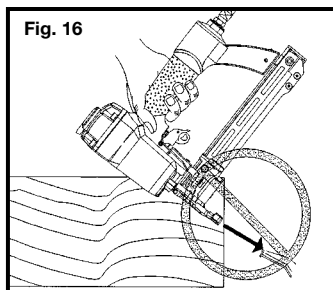

Fig. 16
**26. Do not drive fasteners close to the edge of the workpiece.** The workpiece is likely to split allowing the fastener to fly free or ricochet causing personal injury. Fig. 16.